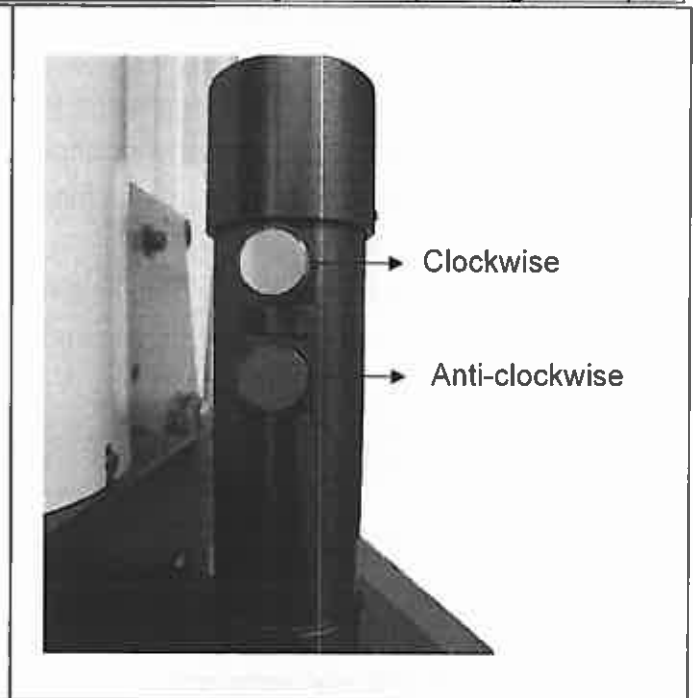

Figure 8-2
- C. Press the clockwise button. The tap will self-center and begin tapping. Let the tap arm guide the tap into the hole (see Figure 8-2).
- D. After tapping to the required depth, press the anti-clockwise button. The tap will reverse out from the hole (see Figure 8-2).